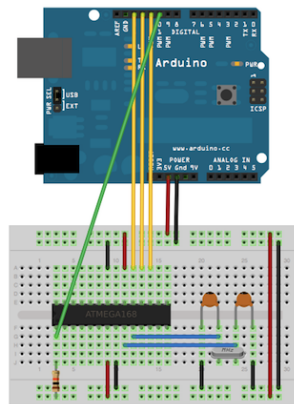

Figure 9: Using an Arduino to burn the bootloader onto an ATmega
2. Wire up the Arduino board and microcontroller as shown in figure 9.